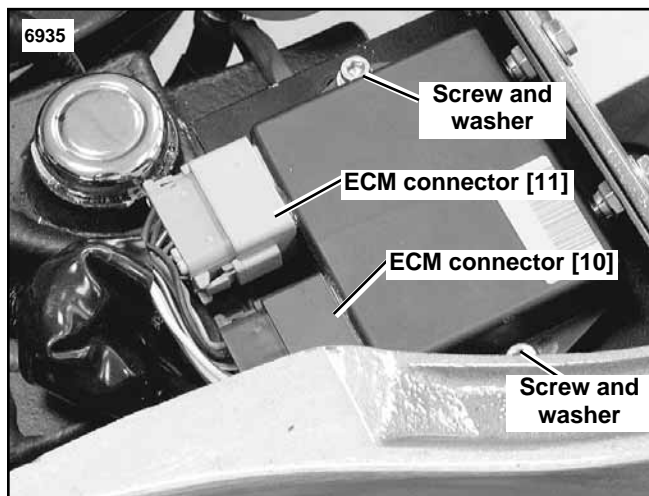

Figure 1. X1 ECM Location
3. See Figure 1 or 2. Remove two screws and washers to detach ECM from bracket.